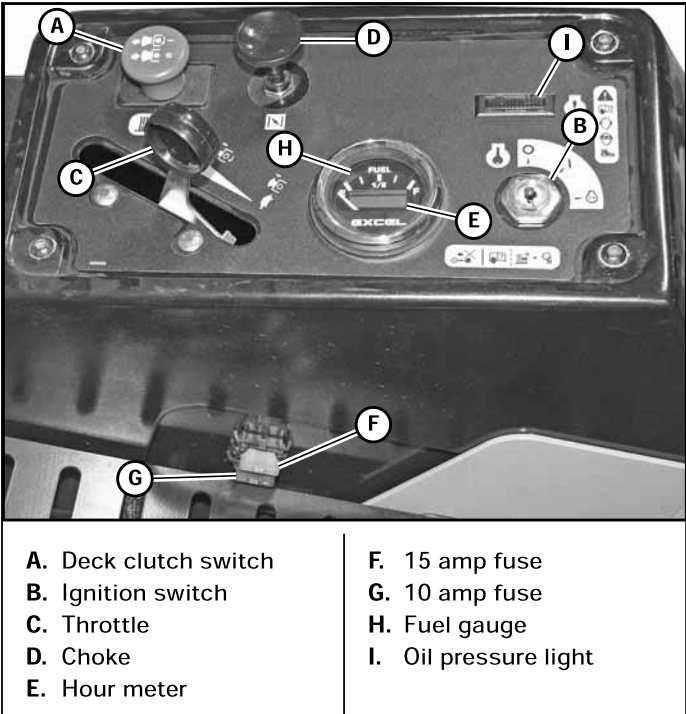

Figure 3-1
- A. Deck clutch switch (Figure 3-1)** — this switch engages the deck. Pull the switch up to engage and push the switch down to disengage the clutch.
- B. Ignition switch (Figure 3-1)** — a three position switch: "OFF", "RUN", and "START". With the key inserted, rotate it clockwise to the "START" position; release the key when the engine starts, and the switch will automatically return to the "RUN" position
- C. Throttle control (Figure 3-1)** — a cable is linked to the engine throttle for controlling engine speed. Move the lever forward to increase engine rpm, move the lever rearward to decrease engine rpm.
- D. Choke control (Figure 3-1)** — a cable is linked to manually operate the engine choke. When the lever is in the down position, the choke is in the "OFF" (run) position. When the knob is pulled up, the choke is in the "ON" (start) position. **Do not** operate the machine in the "ON" (start) position.
- E. Electronic hour meter (Figure 3-1)** — registers 1/10 hour increments up to 9,999.9 total hours. It is connected to the ignition switch. It records the accumulative time
- F. 15 amp fuse (Figure 3-1)** — Deck clutch — 15 amp, blade-type.
- G. 10 amp fuse (Figure 3-1)** — Ignition/Safety system — 10 amp, blade-type.
- H. Fuel tank gauge (Figure 3-1)** — this gauge shows the fuel level in the fuel tank.
- I. Oil pressure light (Figure 3-1)** — this light comes on when the ignition switch is placed in the RUN position and stays lit until the engine is running and a safe oil pressure is developed. If the light comes on during operation, shut engine off immediately and locate and correct the problem.